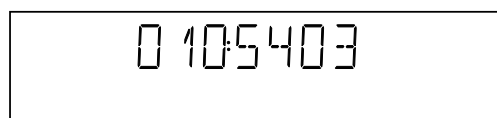

Figure 34
The loop test will perform the same nuclei as the dealer test, but it will loop through the list of nuclei indefinitely. The display of the DVD player will display not only the three digits indicating correct/faulty modules and the last found error code (as mentioned, faults are detected as far as they can be within the scope of the diagnostic software), but also a loop counter indicating how many times the loop has been gone through. If an error was detected, the display will remain as in figure 34 until the user presses the PLAY/PAUSE key and then it will continue to the next loop.
After one loop cycle: Display the 3-digit module bits together with the last error code which occurred in the loop test. The 4 digits at the right side of the display (fig. 34) show the last error that was found during the loop test. The leftmost two digits (54) of this code indicates which nucleus resulted in a fault. The rightmost two digits (03) refer to the faultcode within that nucleus.